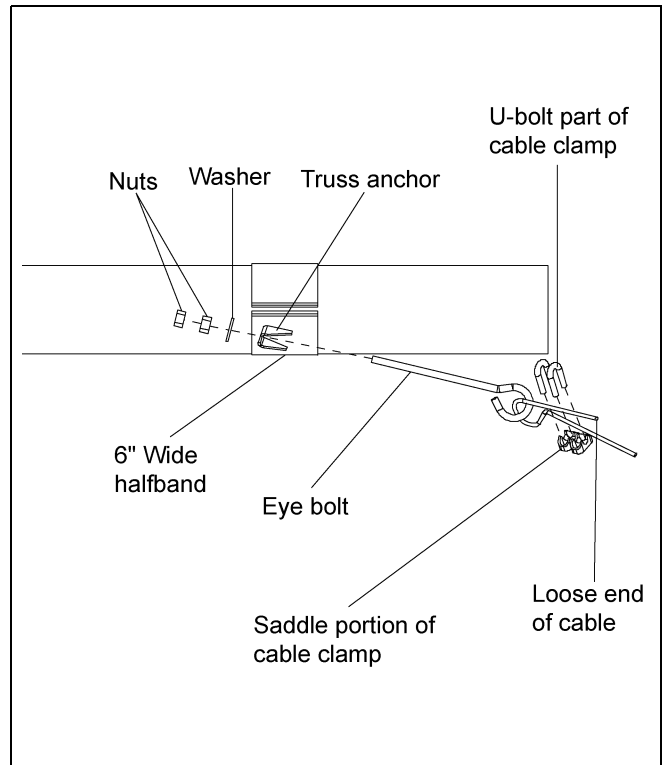

Figure 5 Eye Bolt Anchor Detail
Step 5: Install the eye bolts through ears located on the bottom of one of the halfbands. Make sure the eye is pointing towards the truss assembly. Install one flat washer and two (2) non-lock nuts onto the end of each eye bolt. *(See Figure 5 on Page 3.)*
Step 6: Run cables through the cable anchor loops that are located on the bottom of one of the halfbands. Fasten cables using two (2) cable clamps per each cable.
NOTE: *Secure the U-bolt clamps against the loose end of the cable. (See Figure 5 on Page 3.)*